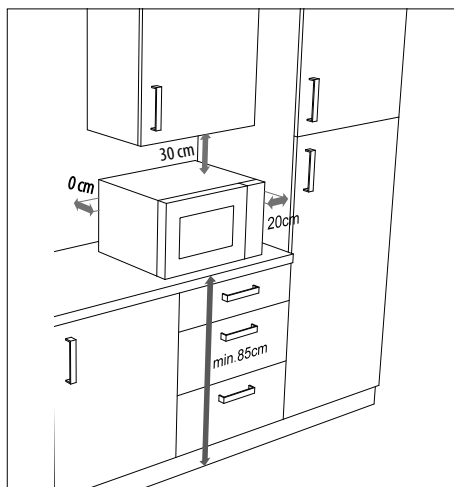

Fig. 2 – Appliance clearance
- ▶ To ensure adequate ventilation, the clearances specified in "Fig. 2 – Appliance clearance" must be maintained. The spacer at the back of the appliance must touch the wall. It ensures that the correct clearance is maintained when positioning the microwave.